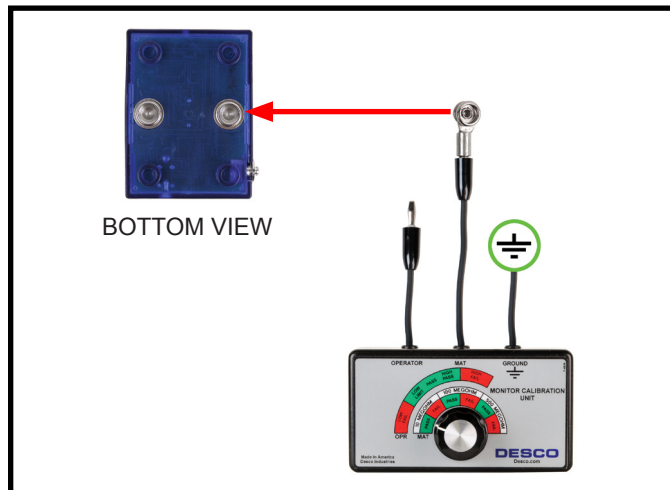

Figure 7. Connecting the MAT test lead from the Monitor Calibration Unit to the Jewel® Workstation Continuous Mini Monitor
Step 2: Connect the included stacking snap to the banana plug labeled “MAT” on the Calibration Unit. Detach the monitor from its mat connection and re-install one of its snaps to the Calibration Unit’s stacking snap (see Figure 7).